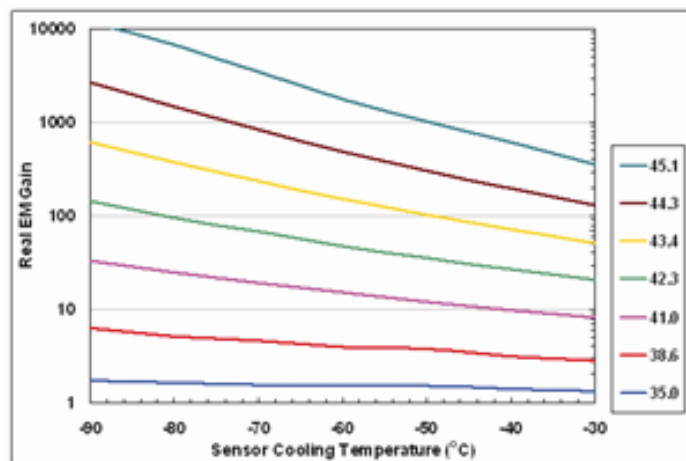
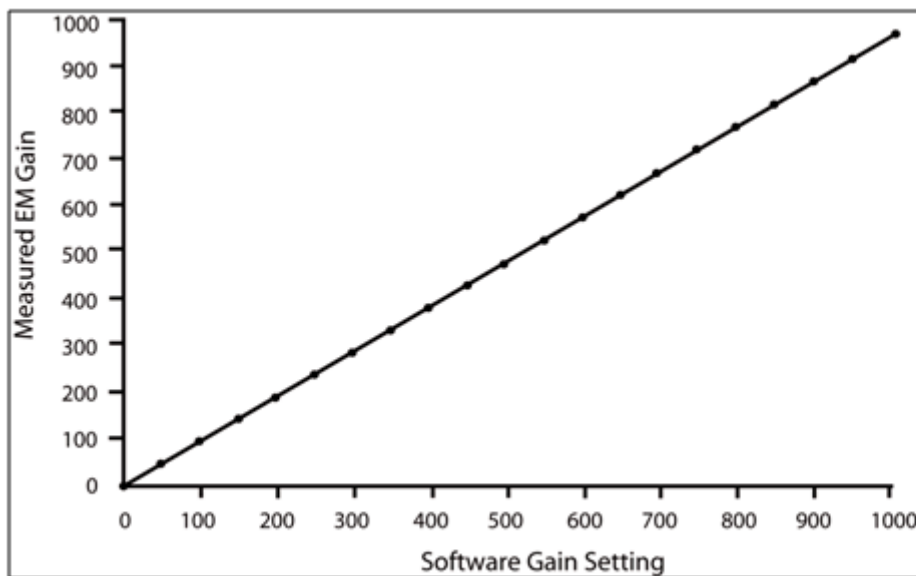

Figure 16: EM Gain vs sensor cooling temperature
Figure 17: RealGain™ calibration in the iXon Ultra – the same linear relationship holds across all cooling temperatures
The effect of sensor temperature on EM Gain is shown in **Figure 16**. This dependence arises primarily from photon scattering of electrons when they are accelerating in the EM electric field. The scattering causes a loss of energy, which increases with temperature. To make up this loss and maintain EM Gain, a larger EM electric field must be used at higher temperatures. As can be seen from **Figure 16**, EM Gains well in excess of x1000 can be achieved at low temperatures. However, it is not recommended to use gains above x1000 because such high gains can cause significant ageing of the gain register (see EM Gain Ageing in **Section 4.1.7**).
- Do not use EM Gains greater than necessary to overcome the read noise (please refer to **Figure 16** and **Figure 17**). A gain of x4 or x5 of the root-mean-square read noise (accessible from the performance sheet) is normally more than sufficient to render this noise source negligible. In practice, this can always be achieved with EM Gain of less than x500 (much less for the slower readout speeds). Pushing gain beyond this value would give little or no extra S/N benefit and would only reduce dynamic range.